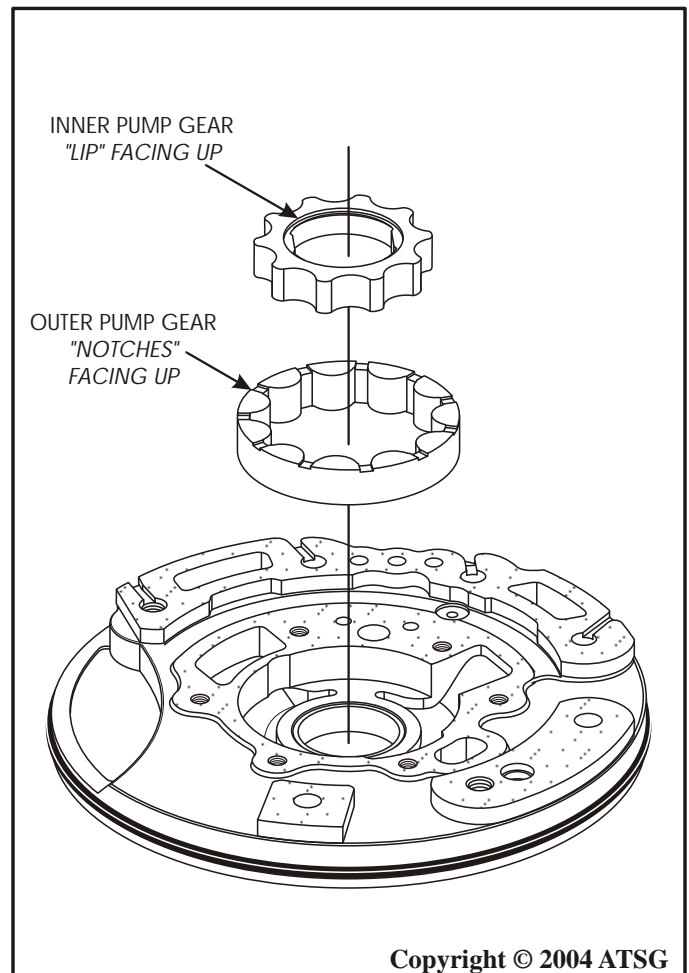

Figure 57
8. Turn the oil pump body over, with the gear pocket facing up, as shown in Figure 57.
10. Install the outer pump gear into the pocket with the "Notches" facing up, as shown in Figure 57.
11. Install the inner pump gear into the pocket with inside "Lip" facing up, as shown in Figure 57.